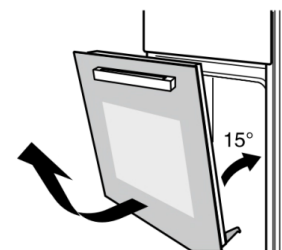

Figure 2
- ② Close the oven door, at about 15 degree, then lift the door, and slowly pull out from the oven. (Figure 2)
- ③ After cleaning, perform the above-mentioned operations in the opposite steps to restore the door to its original condition.